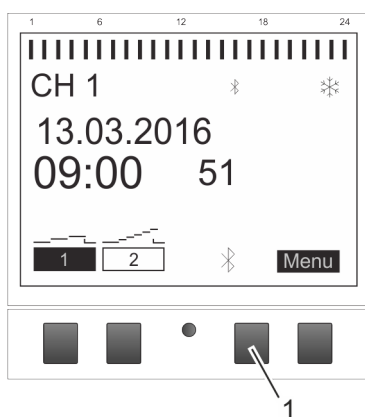

Fig. 7: Establishing the Bluetooth connection on the DIN-rail timer
1. Press the Bluetooth button (Fig. 7/1) on the DIN-rail timer.